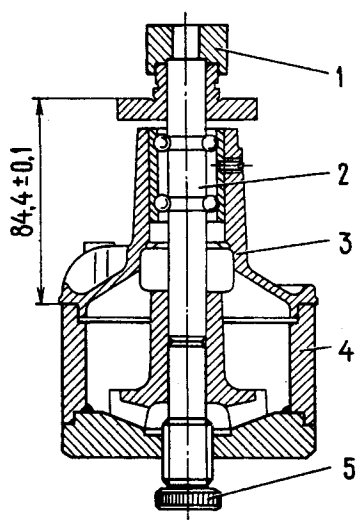

Fig. 2-65. Installing Impeller on Pump Shaft with Tool A.60430:
- using installation tool A.60430 (Fig. 2-65) force the pulley hub on the shaft ensuring a dimension (84.4 ± 0.1) mm. If the hub is made of cerammet, only a new hub should be pressed on;